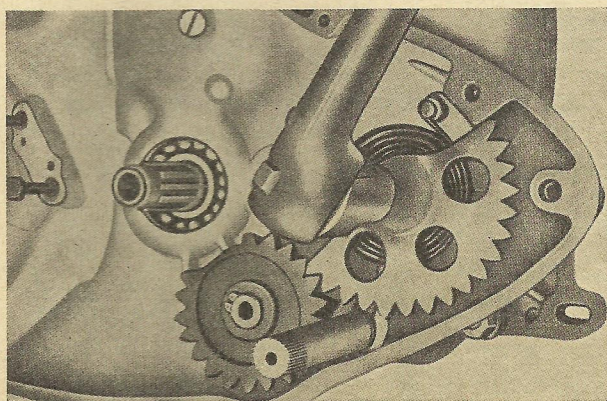

Fig. 14: Kickstarter
Kickstarter (fig. 14)
2. Attach kickstarter spring to the dog clutch gear of the starter shaft, fit big thrust collar in such a way that it comes to lie between spring and crankcase. Attach spring to the retaining pin in the crankcase and give the spring initial tension until the starter shaft can be inserted in the bore of the crankcase in the position indicated in fig. 14.